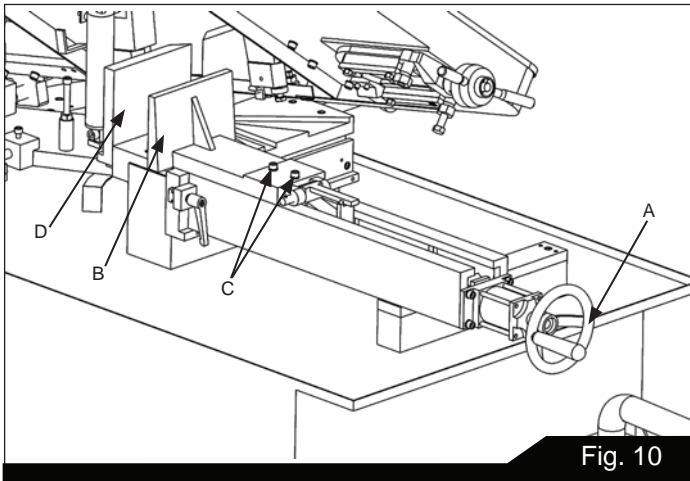

Fig. 10
The workpiece is placed between the vise jaws with the required amount to be cut-off extending out past the blade. To position the moveable vise jaw (B) instantly, simply turn vise handknob (A) Fig. 10, counterclockwise 1/2 turn and move the vise jaw (B) to the desired position.
Then tighten vise by turning the knob (A) clockwise. The vise can be adjusted to cut any angle from 0° to 45° by loosening the two bolts (C) Fig. 10, on each vise jaw. Position the vise jaws to the desired angle and tighten the bolts. It is also necessary, when angle cutting, to move the right hand vise jaw (D) to the left until the workpiece and right hand vise jaw clears the right hand guide arm.